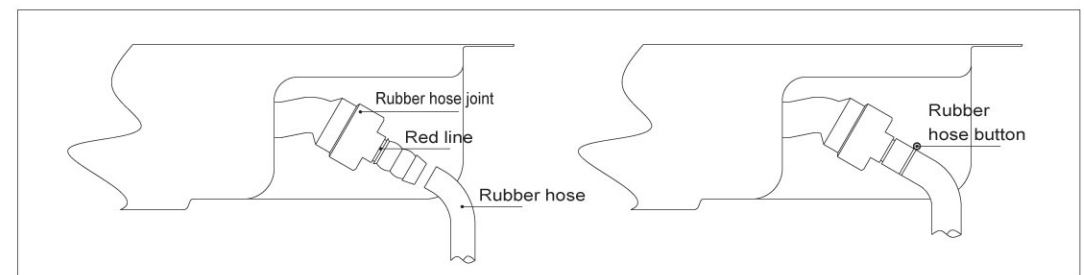

Fig.10
(1) Buckle the rubber hose button to the hose, then hitch the hose to stove's air intake joint, till the red mark, and tightly constrict the rubber hose button. (refer to Fig.10)
(2) Leak test: smear the joint part with tenuous and neutral cleanser(eg.soap subs), and open the general gas valve, if there is air bubble, please close the general gas valve soon, and repeat the action (1) and (2) until there is no air bubble.
(3) If your family gas type is cylinder liquefied petroleum gas (LPG), please choose the qualified pressure reducing valve which is for family use. The gas pressure is 2800±500Pa.